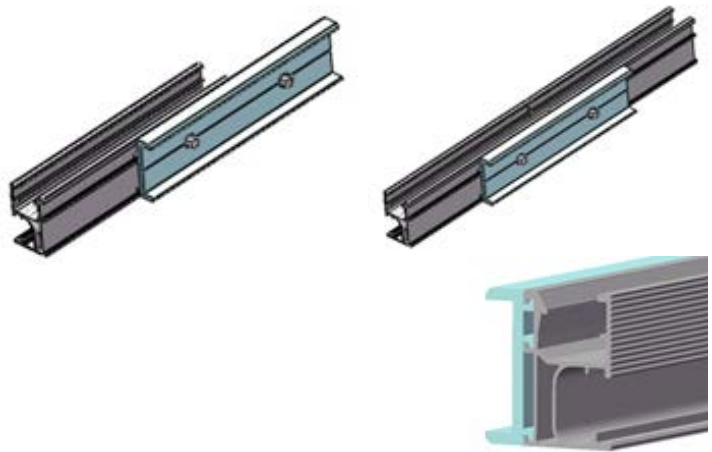

Figure 3
5.1.3 To connect several rails together, slide half of the splice into the rear side of the rail. Fasten the first M8 Bolt using an Allen key, and slide the next rail into the splice as shown in Figure 3. Tighten the second M8 Bolt using an Allen key. The total rail length is recommended not to be over 30 meters considering rails thermal expansion problem.